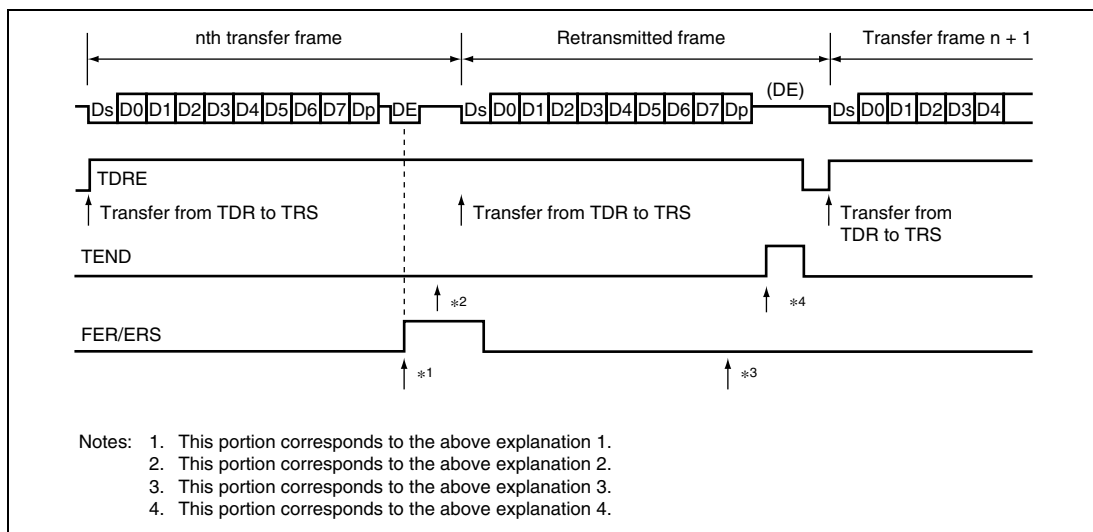

**Figure 15.10 Retransmission in SCI Transmit Mode**
**Retransmission by the SCI in Transmit Mode:** Figure 15.10 shows the retransmission operation in the SCI transmit mode.